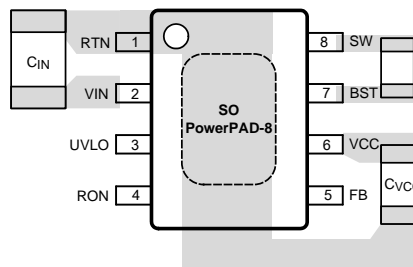

Figure 26. Placement of Bypass Capacitors
2.  $C_{VCC}$  and  $C_{BST}$ : The  $V_{CC}$  and bootstrap (BST) bypass capacitors supply switching currents to the high- and low-side gate drivers. These two capacitors must also be placed as close to the IC as possible, and the connecting trace lengths and loop area should be minimized (See Figure 26).